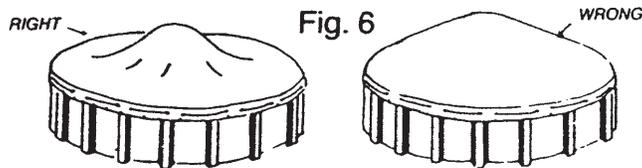

Fig. 6
5. Before placing cover over the pool, pool water should not be less than 6" from top of pool. Where a through-the-wall skimmer is used, cover up the skimmer opening. Inflate flotation pillow (available from your dealer) and secure the pillow in center of pool by tying grommeted ends with nylon rope to pool sidewall. Place the cover over pillow to form a loose pyramid letting the cover suspend over the water around the circumference (See Figure 6). Pull end of cover over pool wall. It is important that the cover fits snugly against the wall to prevent wind from getting under the cover and causing the cover to billow and flap. Caution, such billowing and flapping can cause serious damage to the cover. If you cannot get a snug fit you must block any openings between the cover and the pool wall.